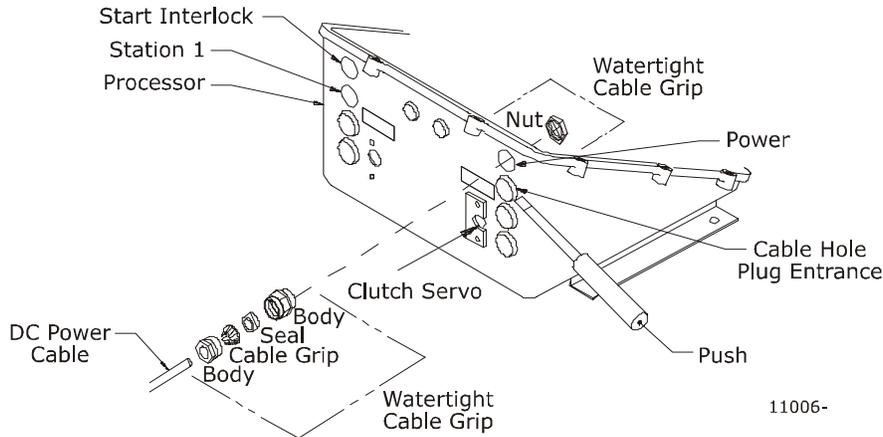

Figure 8: Plug Removal and Cable Grip Installation
D) Install the watertight cable grips needed for cable entrance. Refer to Figure 8:.